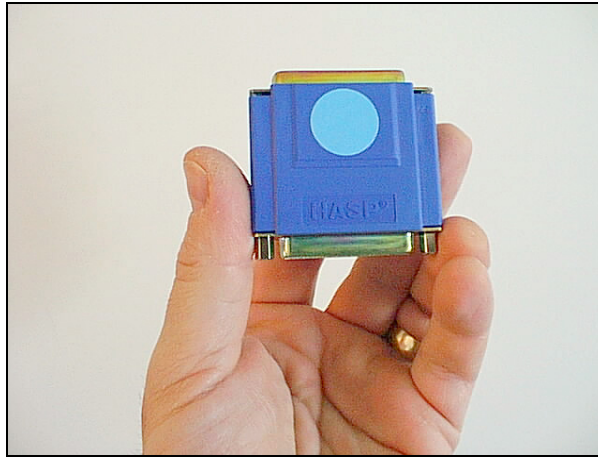

Figure 3-1. Security Key
11. Once Windows 95/98/NT has restarted, connect any program security key to the parallel (printer) port on the PC (see Figures 3-1 & 3-2 in Section 3), then double-click the Analysis icon under the *EddyVISION32 Rel 4.x* folder on the desktop and Analysis should start.
In order to start and use the Analysis program, a valid Analysis HASP™ security key must be connected to your computer's printer port. Figure 3-1 shows what the security key looks like. These keys are fabricated in such a way that more than one key can be connected in series if you wish to use other CoreStar software products concurrently.